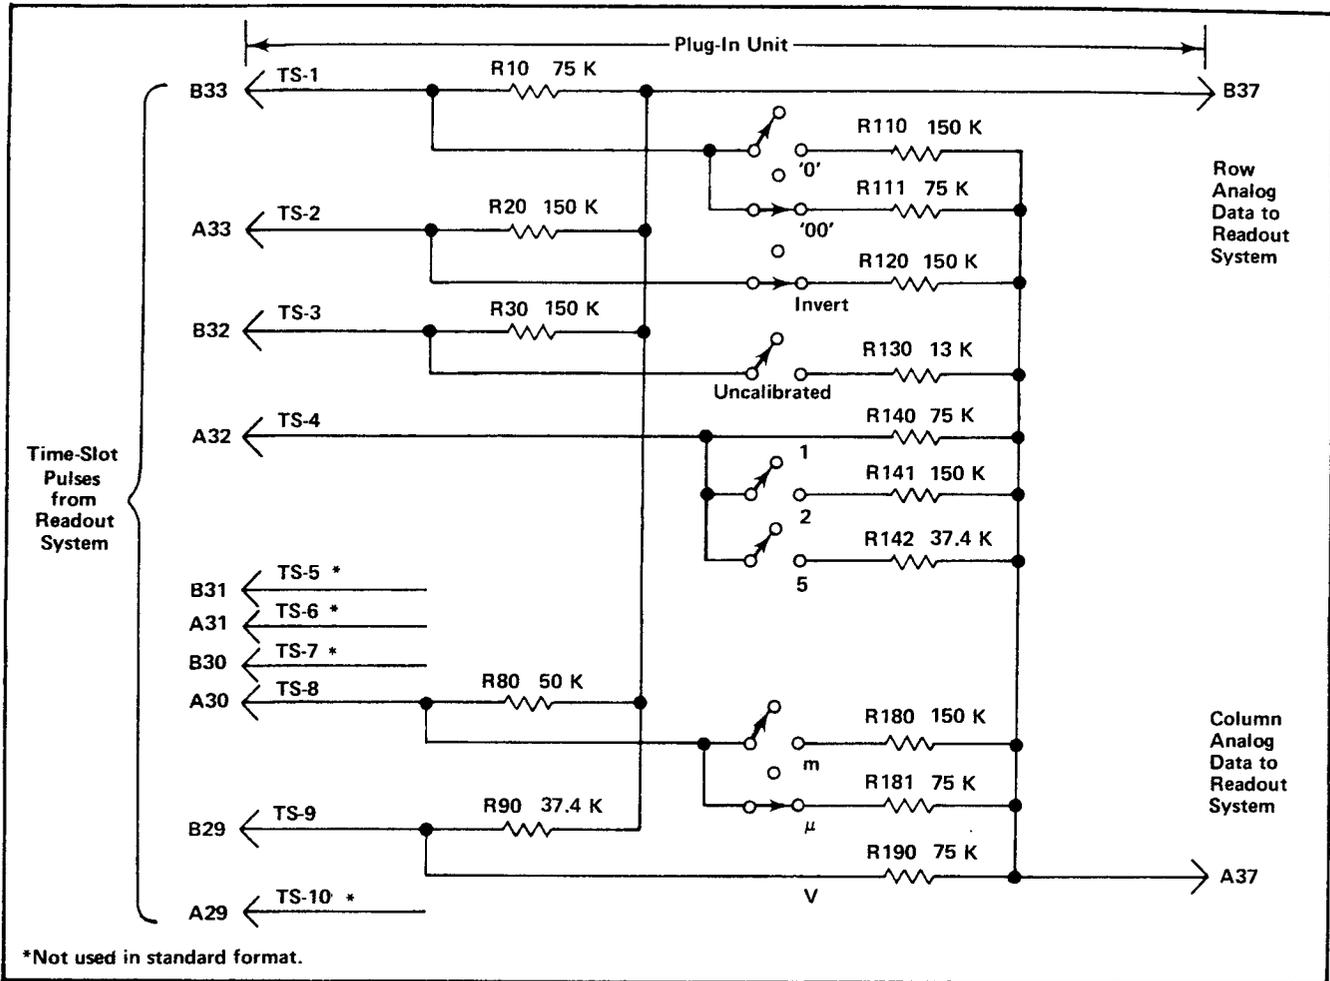
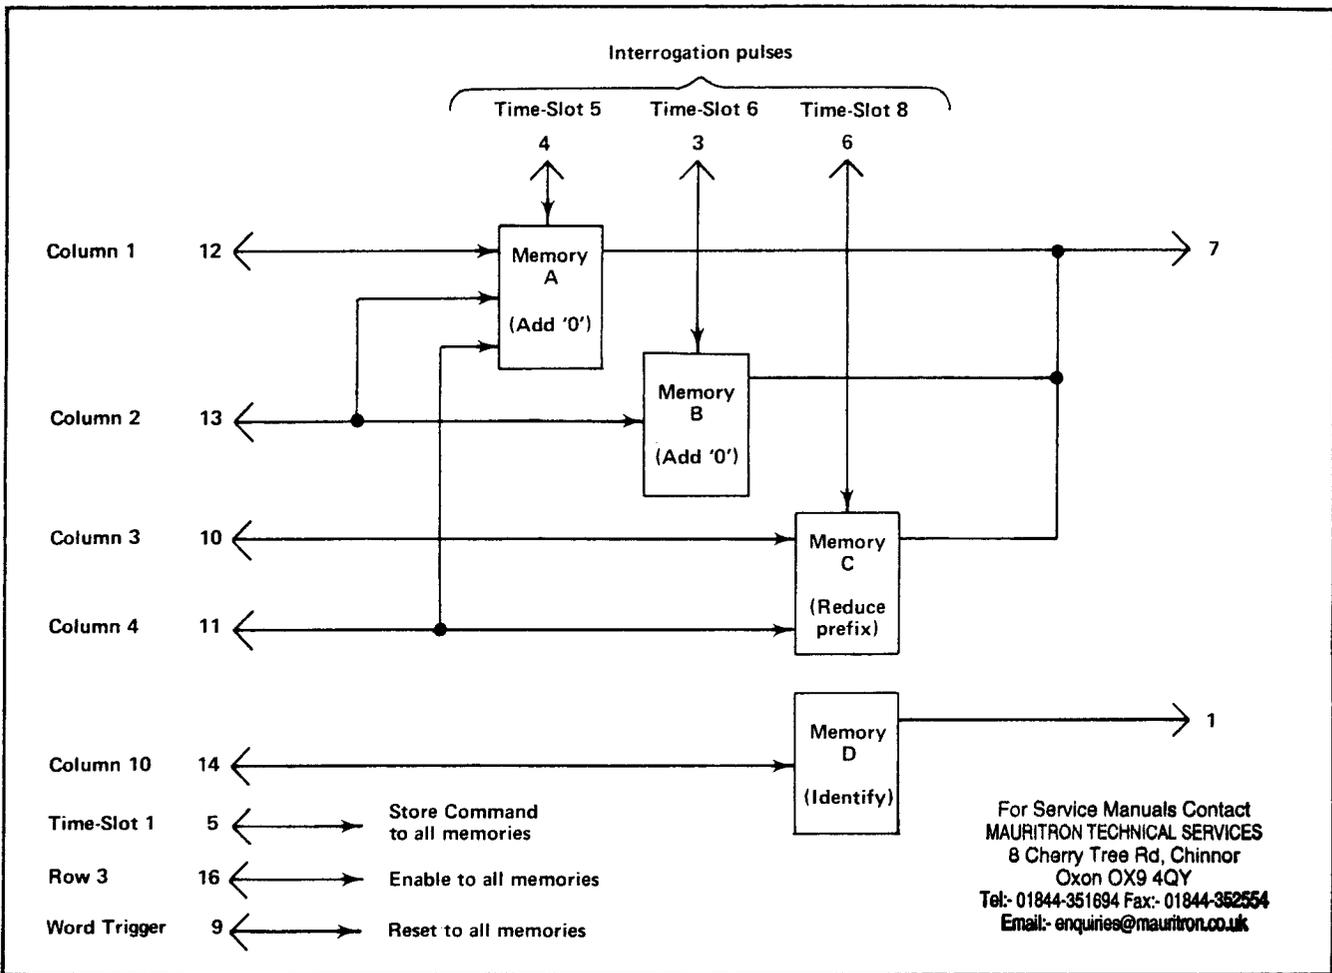
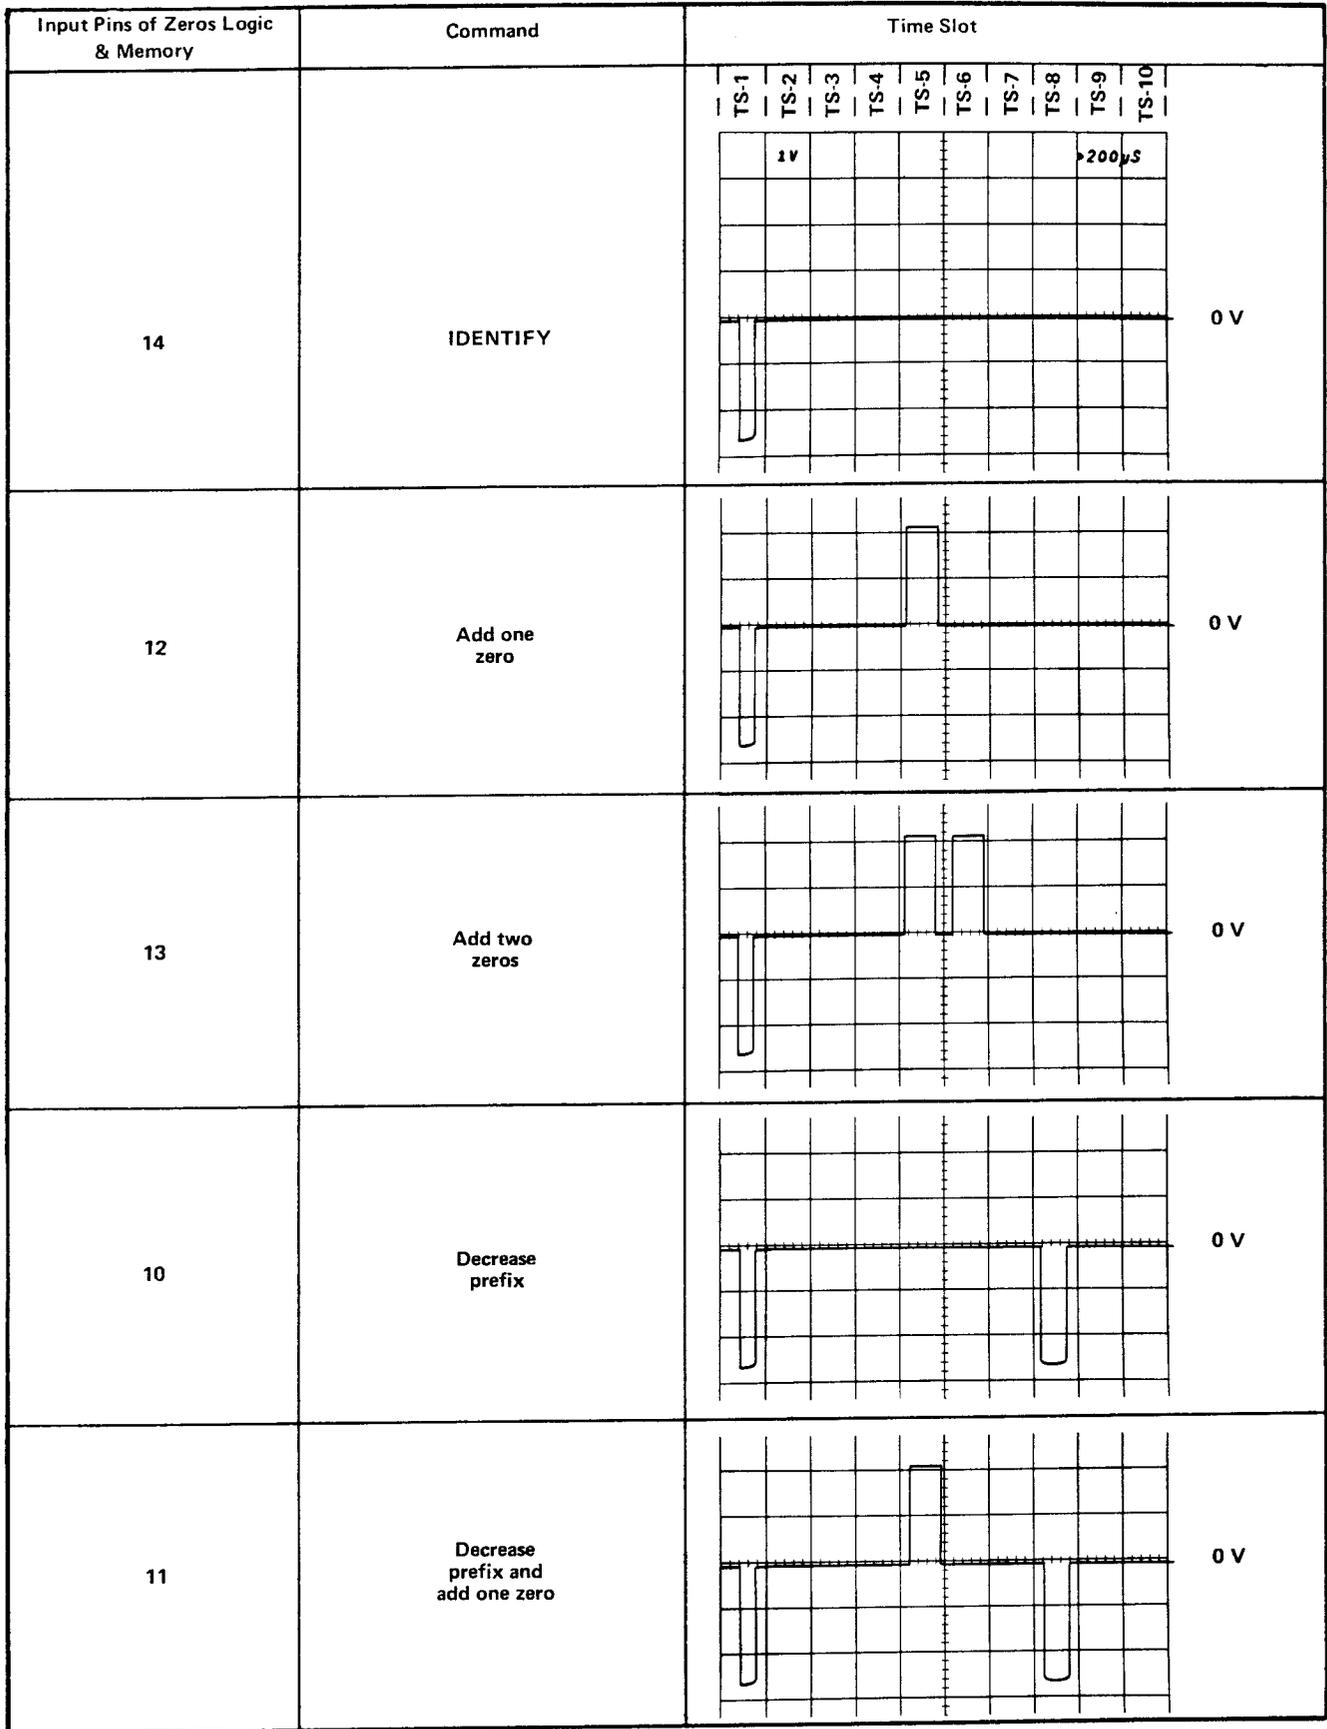

Fig. 4-32. Typical encoding scheme for voltage-sensing amplifier plug-in unit. Coding shown for deflection factor of 100 microvolts.
Fig. 4-34. Block representation of memory sequence in U2232.
Fig. 4-35. Typical output waveforms for Zeros Logic and Memory stage operation (at pin 7 of U2232).
Data is conveyed from the plug-in units to the Readout System in the form of an analog code having up to 11 current levels (from zero to one milliampere in 100 microampere steps). The characters which can be selected by the encoded data are shown on the Character Selection Matrix (see Fig. 4-25). Each character requires two currents to define it; these currents are identified as the column current and the row current which correspond to the column and row of the matrix. The column and row data is encoded by resistive programming in the plug-in units. Fig. 4-32 shows a typical encoding scheme for a voltage-sensing amplifier plug-in unit. Notice that the 10 time-slot (TS) pulses produced by the Time-Slot Counter stage are connected to the plug-in unit. However, time-slots 5, 6, 7, and 10 are not used by the plug-in unit to encode data when using the Standard Readout Format (see Table 4-2 for Standard Readout Format). The amplitude of the time-slot pulses is exactly –15 volts as determined by the Timer stage. Therefore, the resultant output current from the plug-in units can be accurately controlled by the programming resistors in the plug-in units.
For example, in Fig. 4-32, resistors R10 through R90 control the row analog data which is connected back to the Readout System. These resistors are of fixed value and define the format in which the information will be presented by the Readout System. Fig. 4-33A shows an idealized output current waveform of row analog data which results from the 10 time-slot pulses. Each of the steps of current shown in these waveforms corresponds to 100 microamperes of current. The row numbers on the left-hand side of the waveform correspond to the rows in the Character Selection Matrix shown in Fig. 4-35. The row analog data is connected back to the Readout System via terminal B37 of the plug-in interface.
The Column analog data is defined by resistors R110 through R190. The program resistors are connected to the time-slot lines by switch closures to encode the desired data. The data as encoded by the circuit shown in Fig. 4-32 indicates a 100 microvolt sensitivity with the display inverted and calibrated vertical deflection factors. This results in the idealized output current waveforms shown in Fig. 4-33B at the column analog data output, terminal A37 of the plug-in interface. Resistor R111, connected between time-slot 1 and the column analog data output, encodes two units of current during time-slot 1. Referring to the
connectors of vertical plug-in units. A special coding ring around the input connector of the plug-in unit senses the attenuation ratio of the probe (with readout-coded probes only). The probe contains a resistor which results in additional column current. For example, if a 10X attenuator probe is connected to a plug-in with the coding for 100 microvolts as shown in Fig. 4-32, an additional unit of current is added to the column analog data during time-slot 1. Since two units of current were encoded by R111 (see Fig. 4-32), this additional current results in a total of three units of column analog current during this time-slot. Referring to the Character Selection Matrix, three units of column current along with the two units of row current encoded by R10 indicates that the prefix should be reduced. Since this instruction occurs in the same time-slot which previously indicated that two zeros should be added to the display and only one instruction can be encoded during a time-slot, the zeros do not appear in the display. The CRT readout will now be changed to 1 mV (readout) program produced by plug-in same as for previous example.
The Zeros Logic and Memory stage U2232 stores data encoded by the plug-in units to provide zeros-adding and prefix-shifting logic for the Readout System. The Strobe pulse at pin 15 goes positive when the data has stabilized and can be inspected. This activates the Zeros Logic and Memory stage so it can store the encoded data. A block representation of the memory sequence is shown in Fig. 4-34. Typical output waveforms for the five possible input conditions that can occur are shown in Fig. 4-35. When time-slot 1 occurs, a store command is given to all of the